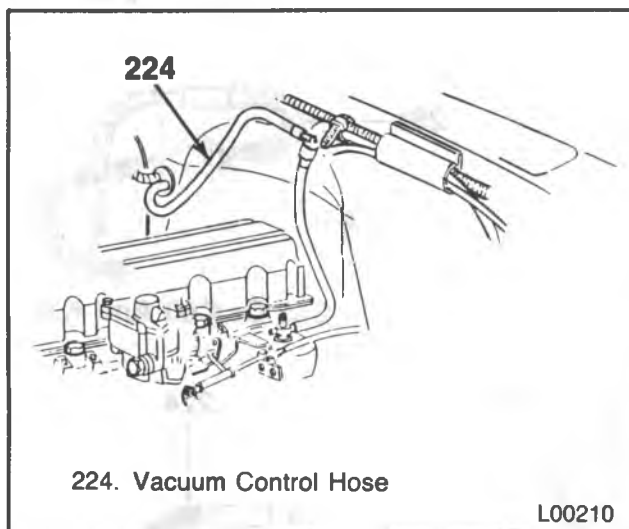

Figure 47 — Vacuum Hose — 4.8L Engine
↔ Remove or Disconnect (Figures 47, 48 and 49)
↔ Install or Connect (Figures 47, 48, and 49)
For vacuum line routing, refer to figures 47, 48 and 49.
1. 4.8L Engine (figure 47).